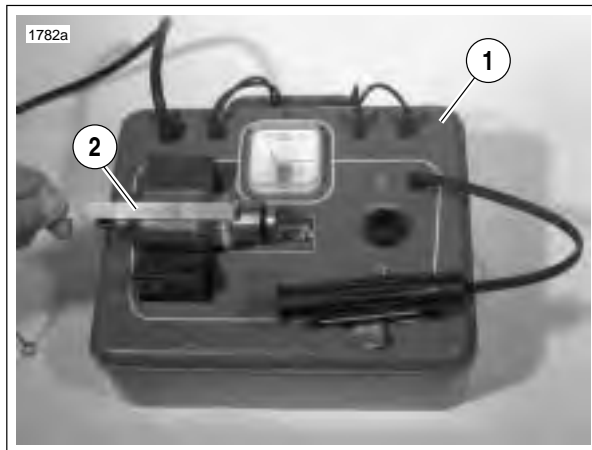
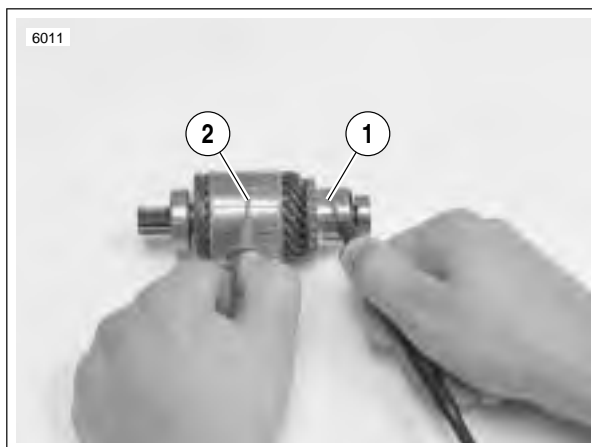

Figure 5-18. Shorted Armature Test Using Growler
Figure 5-19. Grounded Armature Test
9. See Figure 5-18. Check for SHORTED ARMATURE with a growler.
- a. Place armature on growler (1).
- b. Hold a thin steel strip (2) (hacksaw blade) against armature core and slowly turn armature.
10. See Figure 5-19. Check for a GROUNDED ARMATURE with an ohmmeter or continuity tester.
- a. Touch one probe to any commutator segment (1).
- b. Touch the other probe to the armature core (2).